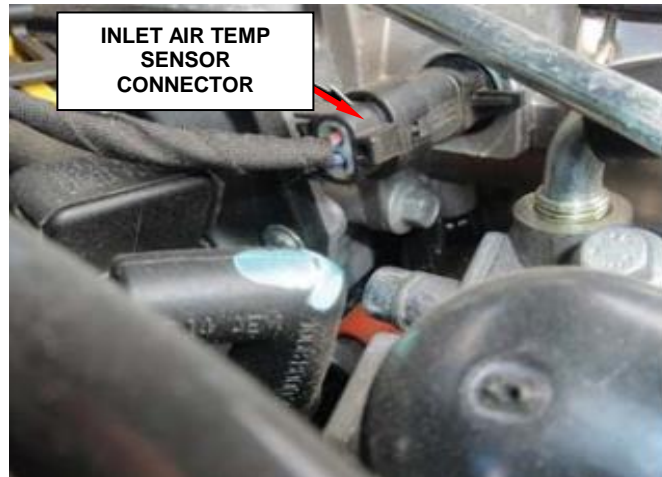

Figure 18 – Inlet Air Temp Sensor
23. Disconnect the inlet air temperature sensor wire harness connector (Figure 18).
13. Connect the inlet air temperature sensor wire harness connector (Figure 18).